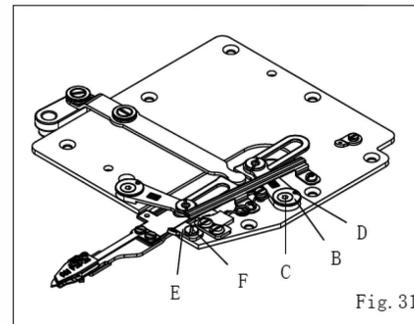

Fig. 31
调整时可放松摇臂之偏心轮(B)上之螺丝(C)，再转动偏心轮，使活动刀片移到正确位置。偏心轮上之记号(D)正常时，大约处于 3 点钟方向位置。(图 31)
当要调整偏心轮(B)改变切刀角度位置时，必须先放松下切刀托架导引片(E)上之螺丝(F)，等调整好切刀组角度后再将导引片(E)轻轻靠在下切刀托架，锁紧螺丝(F)。(图 31)
Please set up the mark (D) of Eccentric Ring to 3 o'clock position in ordinary. (Fig. 31)
When you would like to adjust the Eccentric Ring for changing the angle of under trimmer, please loose the screw (F) of Lower Knife Carrier Guide. (E) Please let the Lower Knife Carrier in gently and lock the screw (F) down after the angle of trimmer have been adjusted. (Fig. 31)